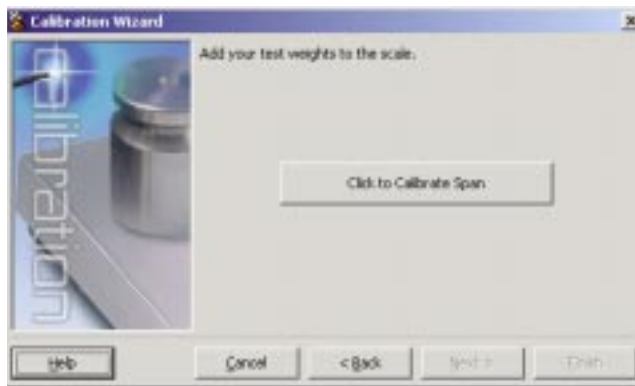

Figure 4-7. *iRev Span Calibration Display*
5. Apply the test weights to the scale. Press the *Calibrate Span* button to perform the span calibration (see Figure 4-7). A message box appears when the process is complete.